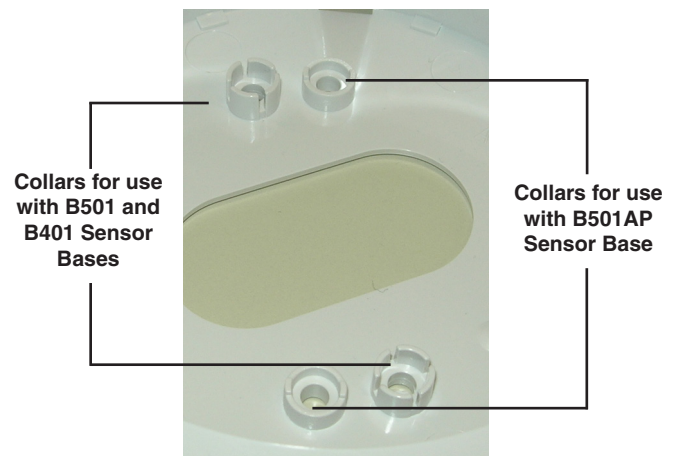

Fig 2: Mounting the Sensor Base into the RMK400AP(-IV)
2. Line up the base screw holes with the raised screw collars located in the bottom of the unit, as detailed in Figure 2 **Mounting the Sensor Base into the RMK400AP(-IV).**